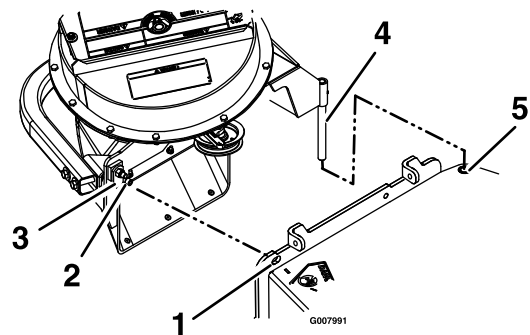

Figure 14
15. Mount the blower on the deck by inserting the mounting pin into the tube welded to the rear corner of the deck (see Figure 14). Pivot the blower until the front pin engages the slot in the deck. Adjust the position of the front pin if necessary to engage the slot. Use the latch to lock the blower in this position. Adjust the tension on the latch to hold the blower up to the deck, yet allow for release by hand.